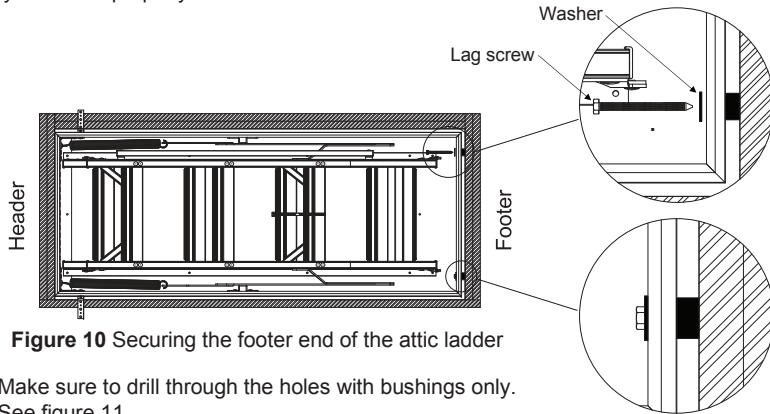

Figure 10 Securing the footer end of the attic ladder
M. Installers #1 and #2: With the header end of the attic ladder supported by the metal straps, the footer end can now be secured. Check the shims positioned at the footer end to be sure they are still centered at the pre drilled locations. Installer #2: Drill 3" deep pilot holes - through the shims and into the ceiling joists and install two 3" lag screws and washers at each location to permanently secure the attic ladder. See Figure 10. Installer #1: Hold the shims securely to resist rotation during drilling and screwing.